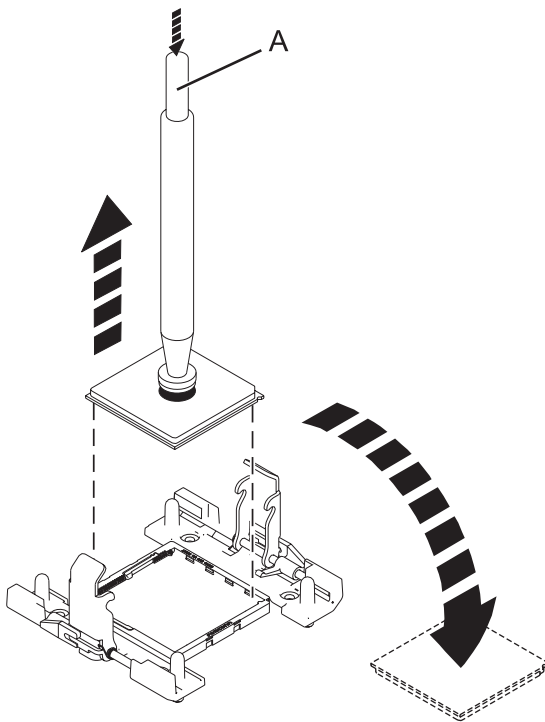

Figure 4. Removing the system processor modules
- a. Fully depress and hold the vacuum pen button **(A)** and place it in the center of the processor module. Then release the vacuum pen button. Releasing the vacuum pen button creates suction. See Figure 4.